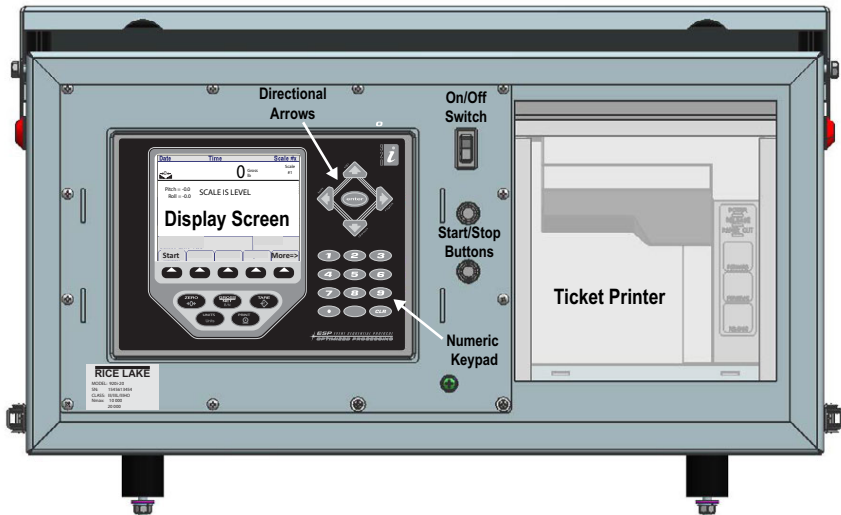

Figure 3-1. Electronic Weigh Center
3. Turn the electronic weigh center on by pressing power switch up (see Figure 3-1.). See following sections for weighing modes.